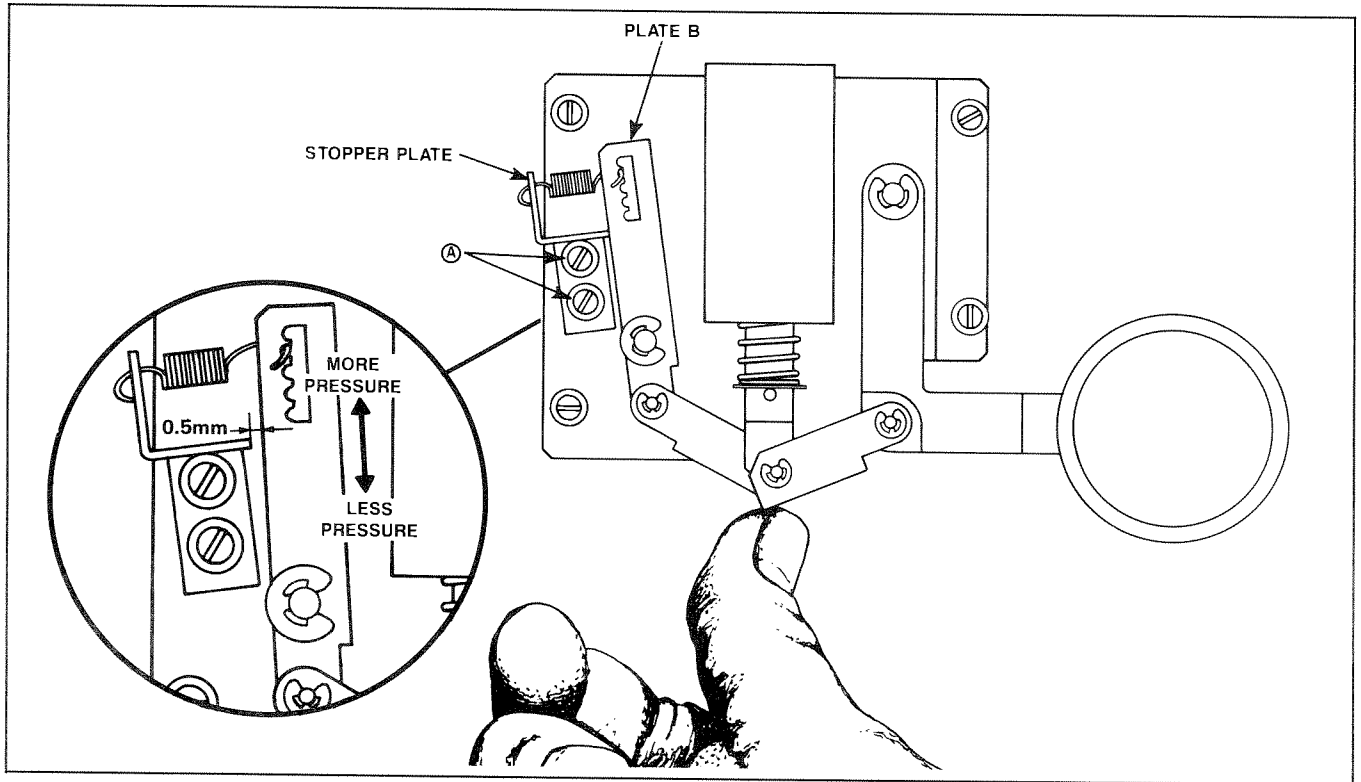

Figure 6-21. Spring Adjustments
- STEP 8** Set the tension spring so that the pinch roller guide pressure is  $2.5\text{kg} \pm 0.3 \text{ kg}$  (refer to Figure 6-21, Spring Adjustments).